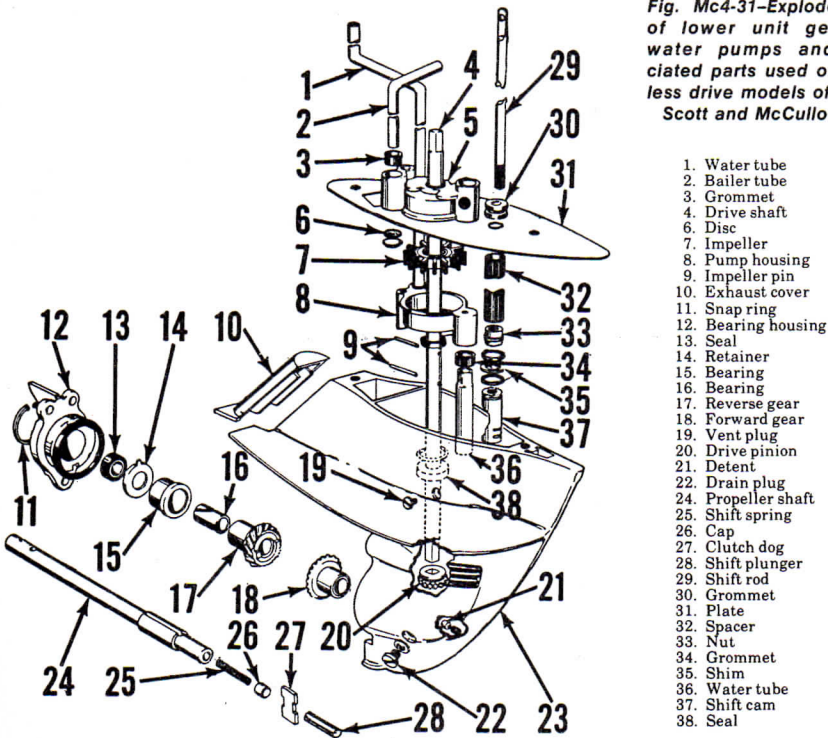

Fig. Mc4-31—Exploded view of lower unit gearcase, water pumps and associated parts used on weedless drive models of Fishing Scott and McCulloch 7.5.
shroud and power head, then detach the lower swivel bracket (21—Fig. Mc4-32) from exhaust housing (4). Disconnect the lower shift rod (29—Fig. Mc4-31) from the actuator (13—Fig. Mc4-32). Remove the two cap screws securing the gearcase housing (23—Fig. Mc4-31) to the exhaust housing and withdraw the unit straight down out of exhaust housing. Cooling system and bailer pumps, and the driveshaft,
pinion and forward gear can be removed and serviced. Refer to WATER PUMP paragraph for details. If shift rod or shift mechanism is removed, pay particular attention to the position of the shift rod (29) with relation to the selector cam (37). When assembling, turn the shift rod into selector cam until it bottoms, then back off until the offset upper end of rod is aligned with cam surfaces of selector as shown at (A—Fig. Mc4-33). Make sure seals (S) are in place. Lock the assembly in position by tightening the locknut (33—Fig. Mc4-31). Detent plunger (21) is retained in housing by selector cam (37) and will be released when cam is removed. Use care not to lose the plunger and spring, and make sure they are correctly installed when reassembling. When the lower unit is assembled, adjust the shift mechanism as outlined in the ADJUSTMENT paragraph.